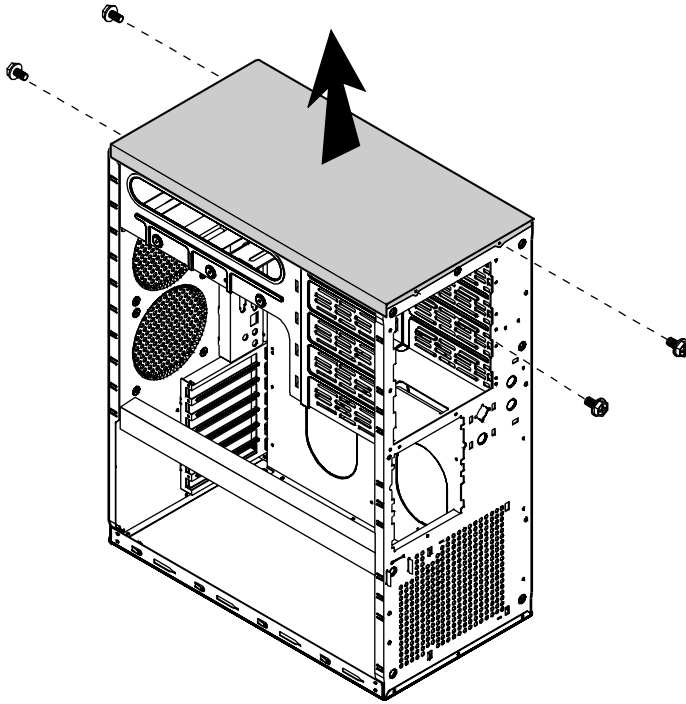

Figure 3: Removing the Top Cover
5. Remove the four screws that secure the top panel to the chassis. Two are located at the rear of the system and two are located at the front of the system. See Figure 3.